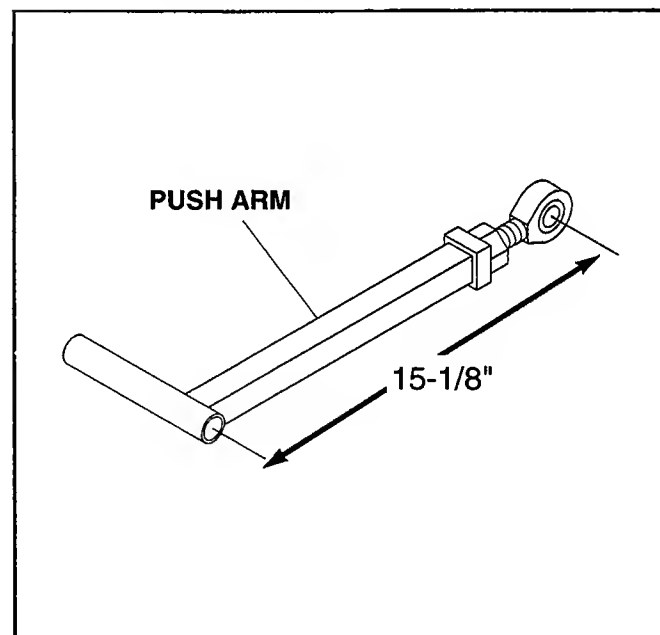

Figure 2
7. Check that cutter deck push arms are set for same distance. The distance should be approximately 15-1/8" from center of bushing to center of ball joint. The distance for both push arms **must** be the same. (See Figure 2)